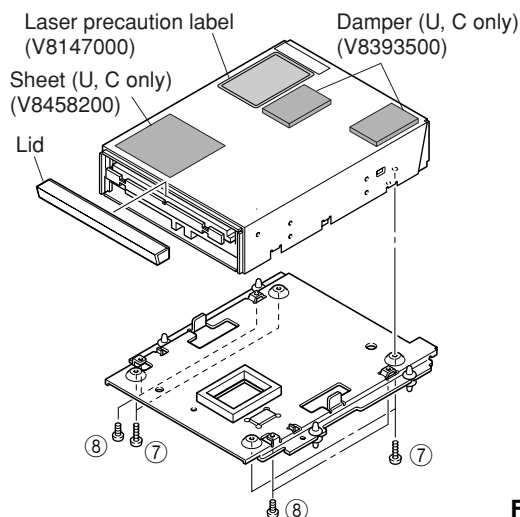

Fig. 4
- When replacing the CDR mechanical unit, be sure to order a laser precaution label, a radiation sheet, a sheet (U, C) and a damper (U, C) as spare parts and attach them to the new CDR mechanical unit. (Refer to the figure 4 in P6.)
- Remove 4 screws (⑦) and (⑧) respectively and then remove the lower frame. (Fig. 4)
- Remove the lid upward. (Fig. 4)
- Attach the laser precaution label on the upper frame of the new CDR mechanical unit. (Fig. 4)
- Attach the sheet and the damper on the upper frame of the new CDR mechanical unit. (Fig. 4)
- Install the lower frame and fix it with 4 screws (⑦) and (⑧) respectively. (Fig. 4)